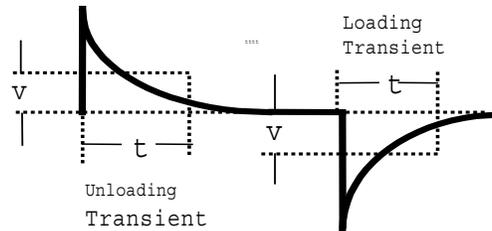

Figure 2-2. Transient Waveform
- Adjust the oscilloscope for a waveform similar to that in Figure 2-2.